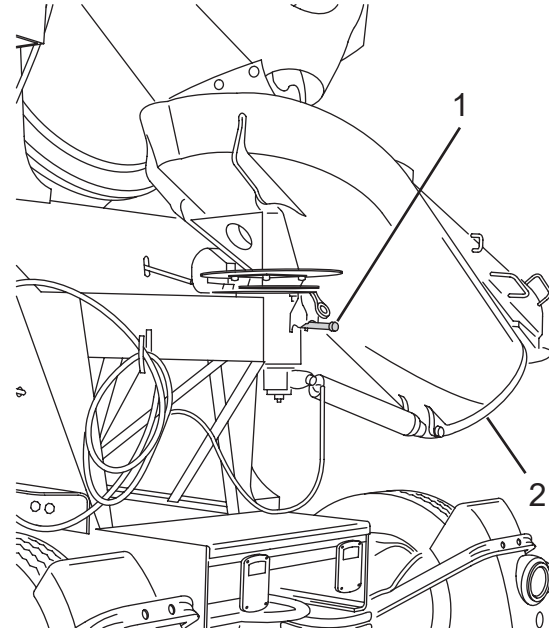

Figure 61
2. While holding the chute, pull down on the lever (Figure 61, Item 1) and move it to the right or left until the lever is seated in one of the lock positions.
3. Move the main chute (Figure 61, Item 2) to the desired position, and while holding the chute, move the lever to the center. Make sure the lever pin is fully seated into one of the holes in the chute plate before releasing the chute. Move the main chute from side to side as needed to align the pin and hole.